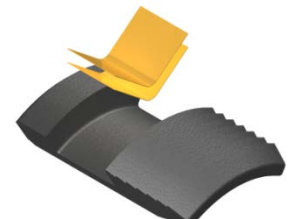

Fig. 3
- L-1) Clamp inner mandrel (2) in vise.
- L-1.1.1) Install upper slips (8), releasing slip (7), and upper slip springs (19) into spring cage (5).
- NOTE₆:** Install two (2ea) springs per slip (Fig. 3).
- L-1.1.2) Wedge releasing slip (7) and upper slips (8) outwards. Install spring cage assembly onto inner mandrel (2) and remove wedges.
- L-1.2) Install compression spring (4) onto inner mandrel (2).
- L-1.3) Screw top sub (1) onto inner mandrel (2).
- L-1.4) Screw spring cage cap (3) into spring cage (5).
- CAUTION₄:** Compression spring (4) is compressed with spring tension against spring cage assembly.
- L-2) Remove inner mandrel (2) from vise. Clamp top sub (1) in vise.
- L-2.1) Install upper cone (9) and bearing bushing (6) onto inner mandrel (2).